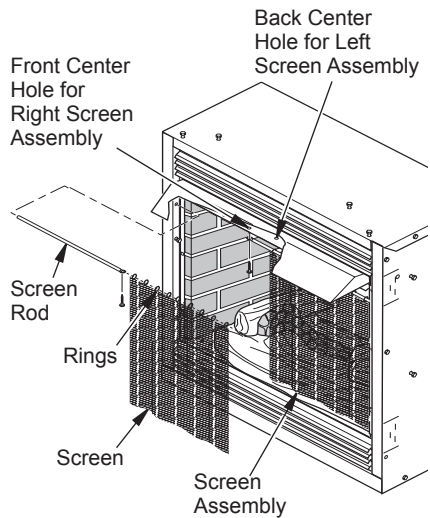

Figure 36 - Installing Screen
5. Insert each rod through ten rings located at top of screen (see Figure 36).
6. Insert first rod into hole in left side of firebox. Fasten rod to rear hole near center of firebox using black Phillips head screw (see Figure 36).